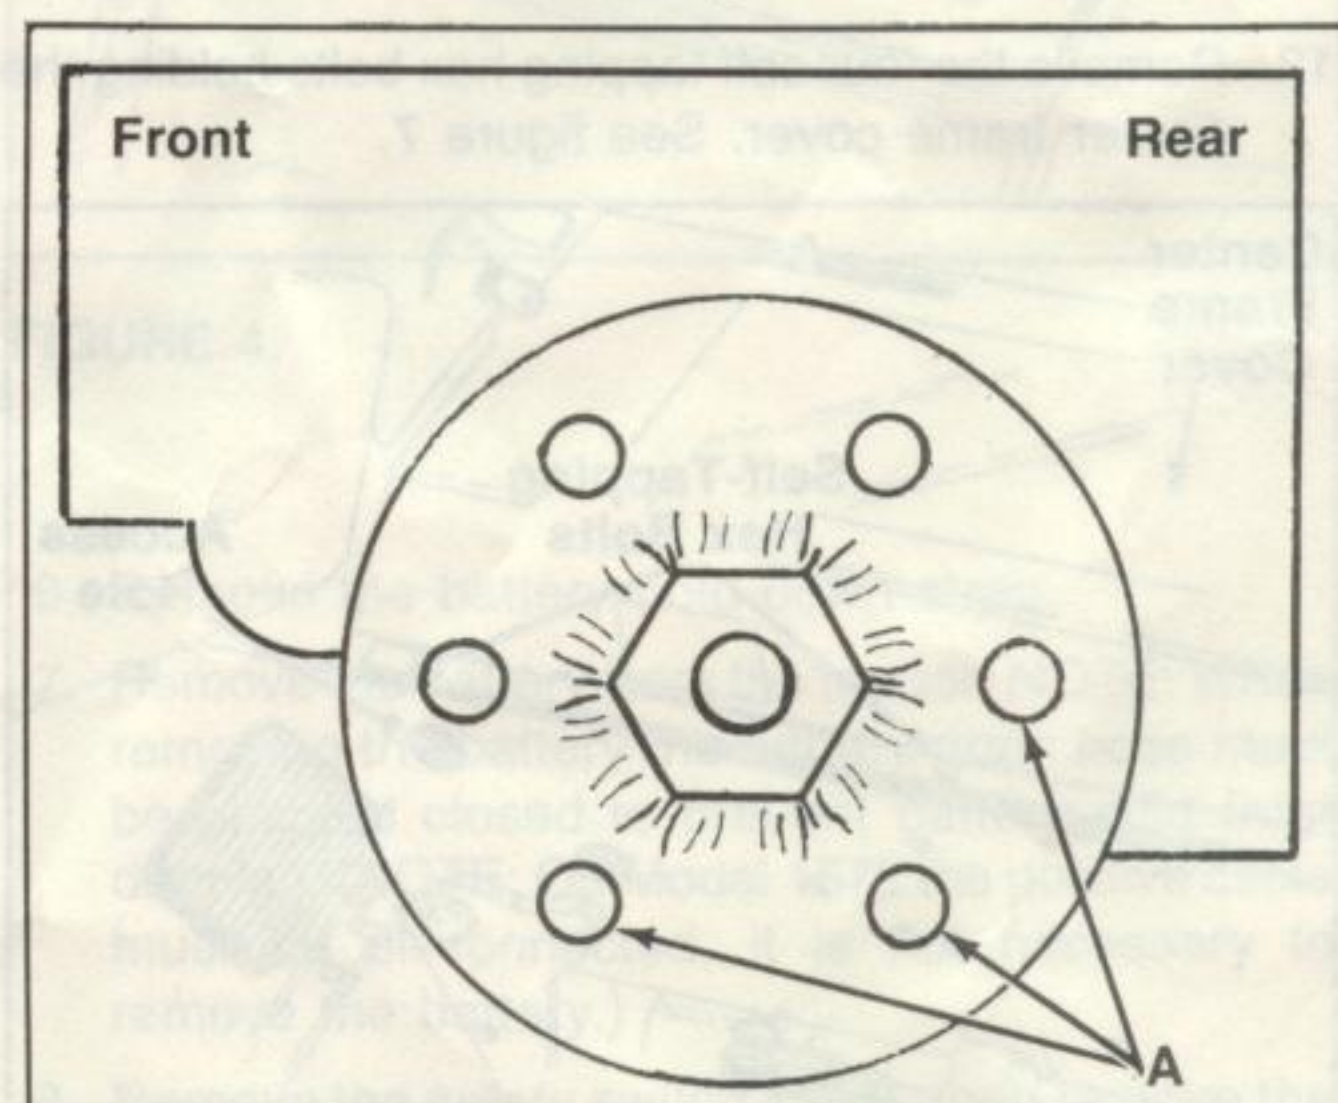

**FIGURE 12.**
23. Install new rear cover plate assembly (Ref. 20) and rear cover plate gasket (Ref. 21), to the transmission housing using the four bolts and lock washers removed in step 22. See figure 12.
24. Install new draw bar plate (Ref. 8) to rear cover using the five lock washers from step 21, two hex patch bolts (Ref. AD) and three longer hex patch bolts (Ref. AC). See figure 12.
27. Remove two bolts from the top of the transmission case as shown in figure 12.